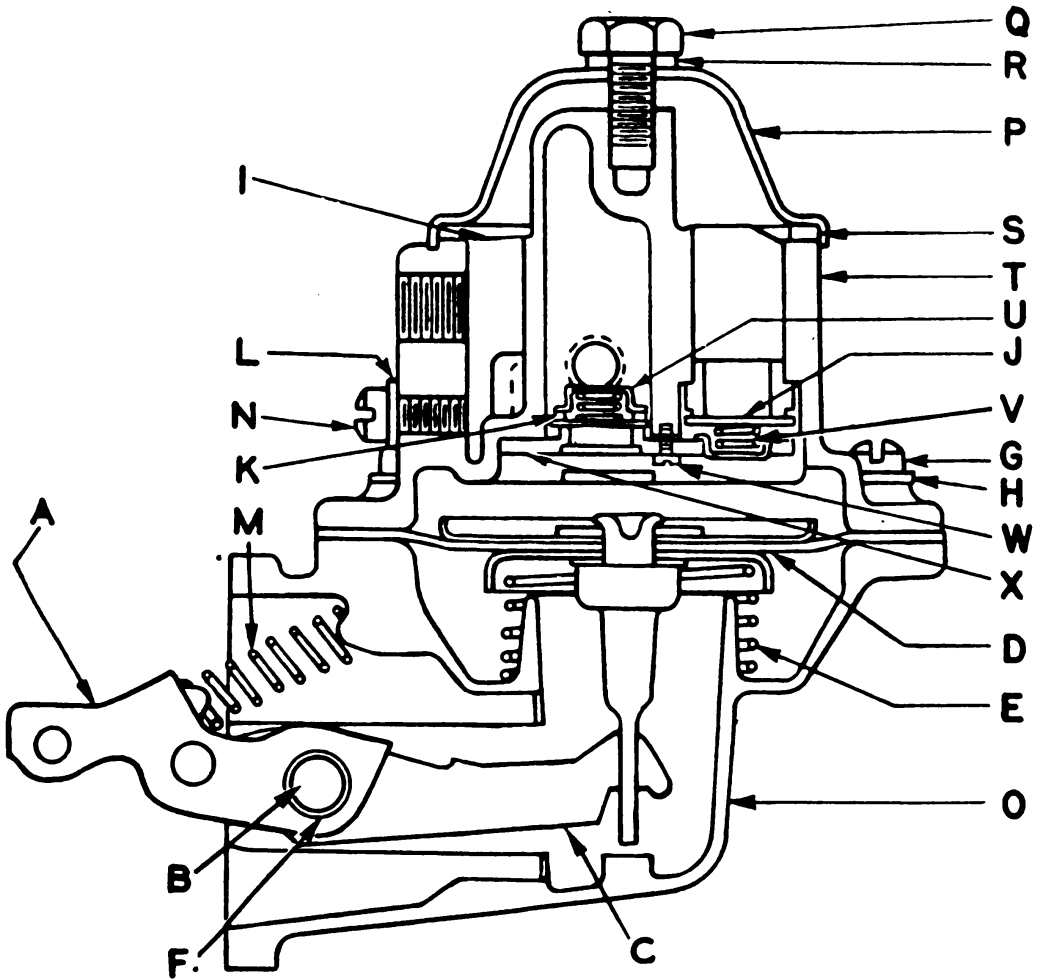

FIGURE 8—FUEL PUMP—CROSS SECTION
- (1) Repairs made without disturbing pump installation.
- (2) Repairs which necessitate removal and disassembly of fuel pump. (Refer to Figure 8.)
*d. Procedure in assembling (Figure 8).*